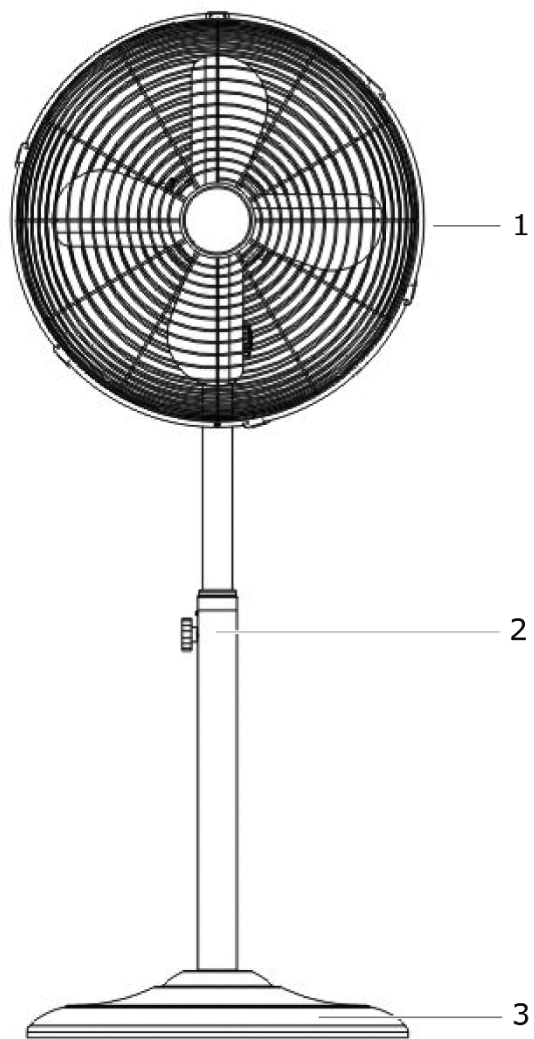

Fig. 1
- ✓ Check whether the delivery is complete (see Fig. 1).